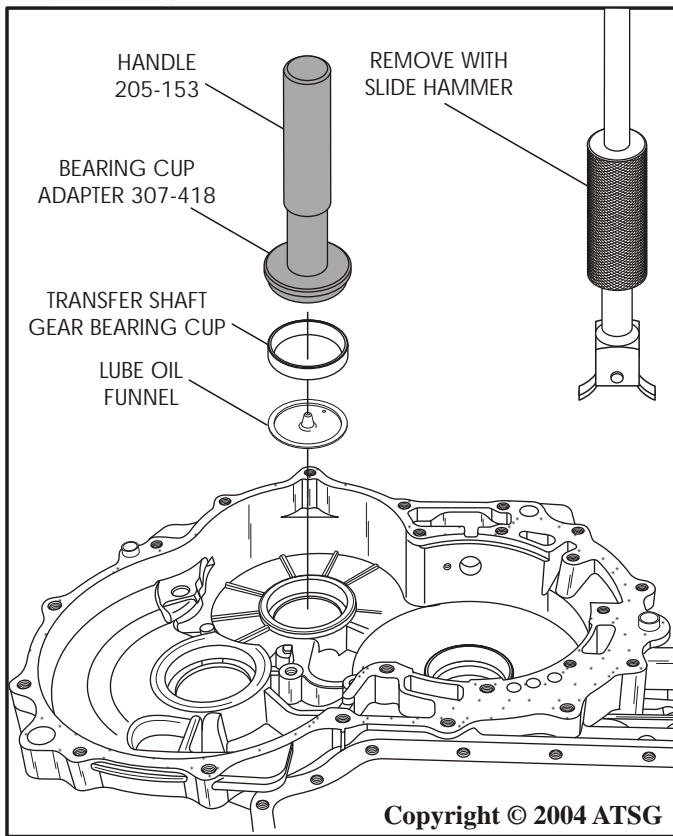

Figure 119
21. Install lube oil funnel into transfer shaft cup bore in case, as shown in Figure 119.
22. Install new transfer shaft bearing cup into case, using proper driver, as shown in Figure 119.